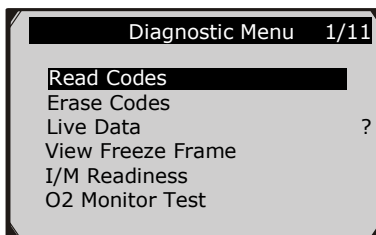

Figure 5.4
- 1) To view live data, use the **UP/DOWN** scroll button to select **Live Data** from **Diagnostic Menu** and press the **OK** button. (Figure 5.4)
- 1) To view freeze frame data, use the **UP/DOWN** scroll button to select **View Freeze Frame** from **Diagnostic Menu** and press the **OK** button. (Figure 5.4)
- 1) Use the **UP/DOWN** scroll button to select **I/M Readiness** from **Diagnostic Menu** and press **OK** button. (Figure 5.4)